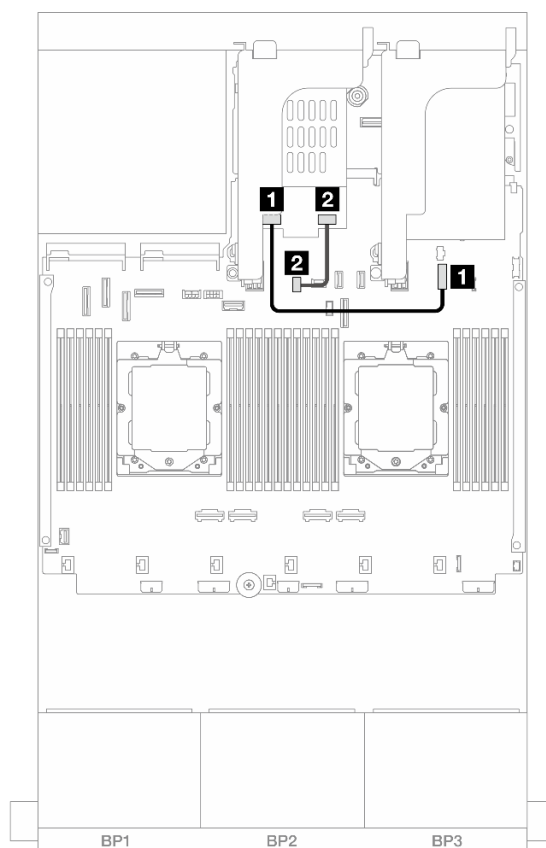

Figure 304. NVMe cable routing
- Figure 304 “NVMe cable routing” on page 314